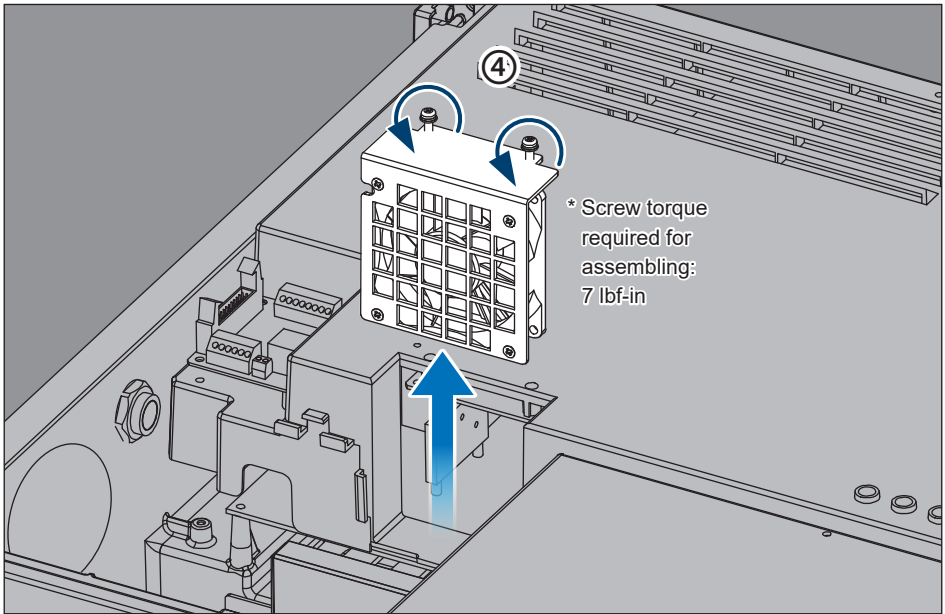

Figure 5-14: Take off the internal fan 2
- (1) Open the front door as instructed in **Chapter 5**.
- (2) Disconnect the fan connector on the comm. board as figure below.
- (3) Loosen two self-retaining screws and remove the fan cabinet.
- (4) Lift the entire fan assembly. (shown in **Figure 5-14**)